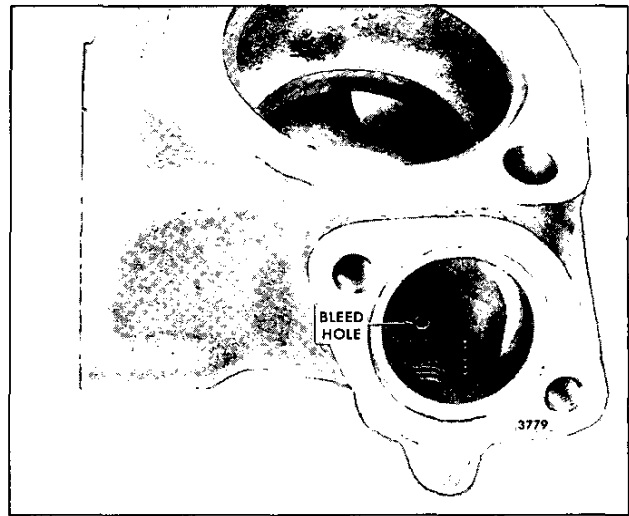

Fig. 5 – Bleed Hole in Thermostat Housing (V-Type Engine)
4. Check the bleed hole in the thermostat housing to make sure it is open (Fig. 5).